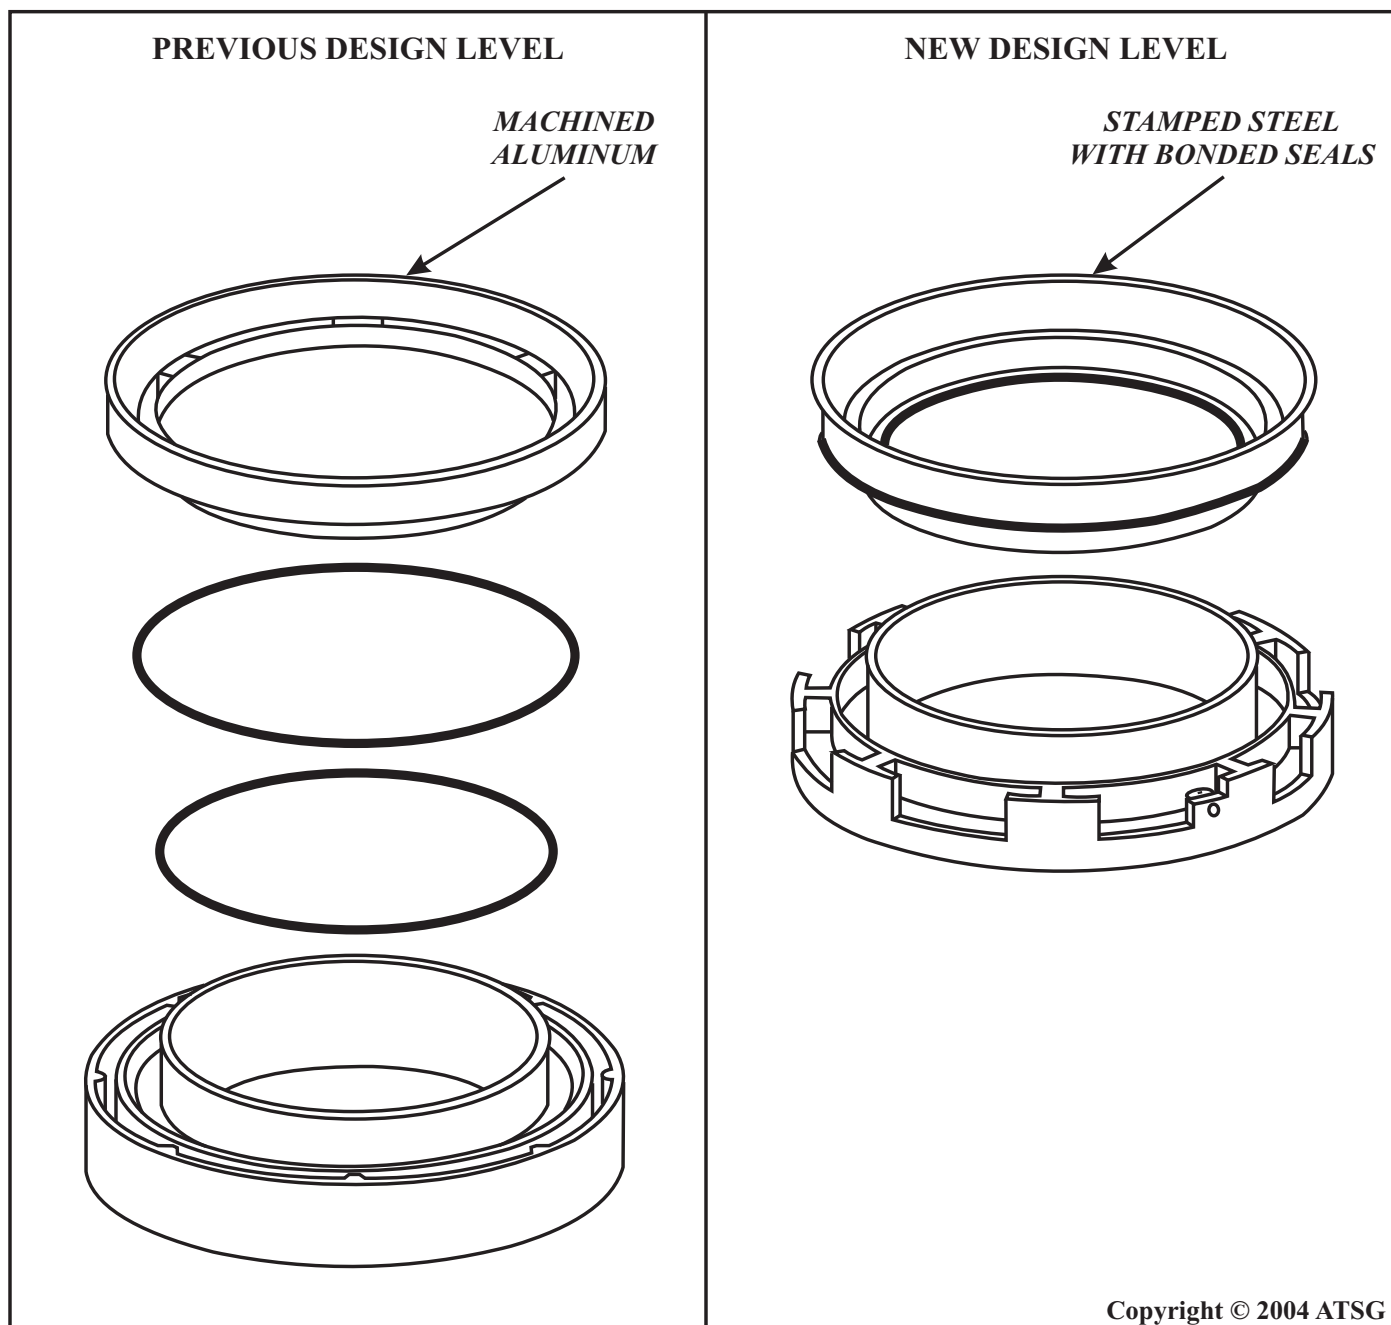

Figure 78
CHANGE: Some 1996-1997 vehicles equipped with the E4OD transmission were built with a new design level overdrive clutch piston, with the seals bonded to the piston (See Figure 78).
- (1) OVERDRIVE PISTON - Now stamped steel with moulded rubber inner and outer seals on the piston assembly, instead of the previous machined aluminum, as shown in Figure 78.
- (2) OVERDRIVE/INTERMEDIATE CLUTCH CYLINDER - Major casting changes to clutch cylinder, to accommodate the new design level bonded piston, as shown in Figure 78.